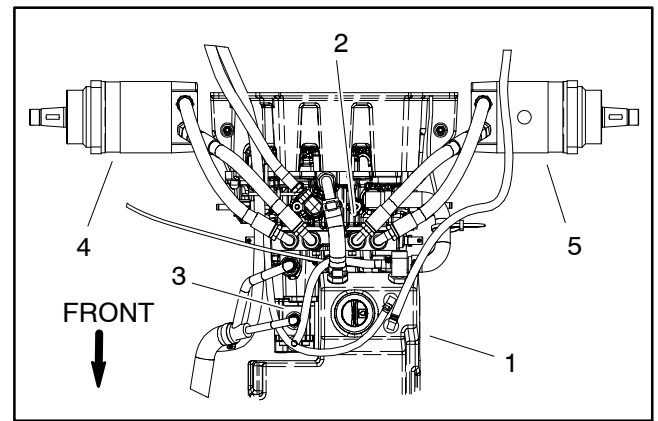

Figure 95
- Disconnect hydraulic hoses from fittings on the hydraulic tank and gear pump (Fig. 95). Allow hoses to drain into a suitable container. Install clean plugs in hose and fitting openings to prevent system contamination.
- Remove two (2) cap screws and lock washers that secure gear pump to the transmission.
11. Remove gear pump from transmission. Remove and discard O-ring (item 3). Locate and remove coupler from transmission or gear pump shaft.